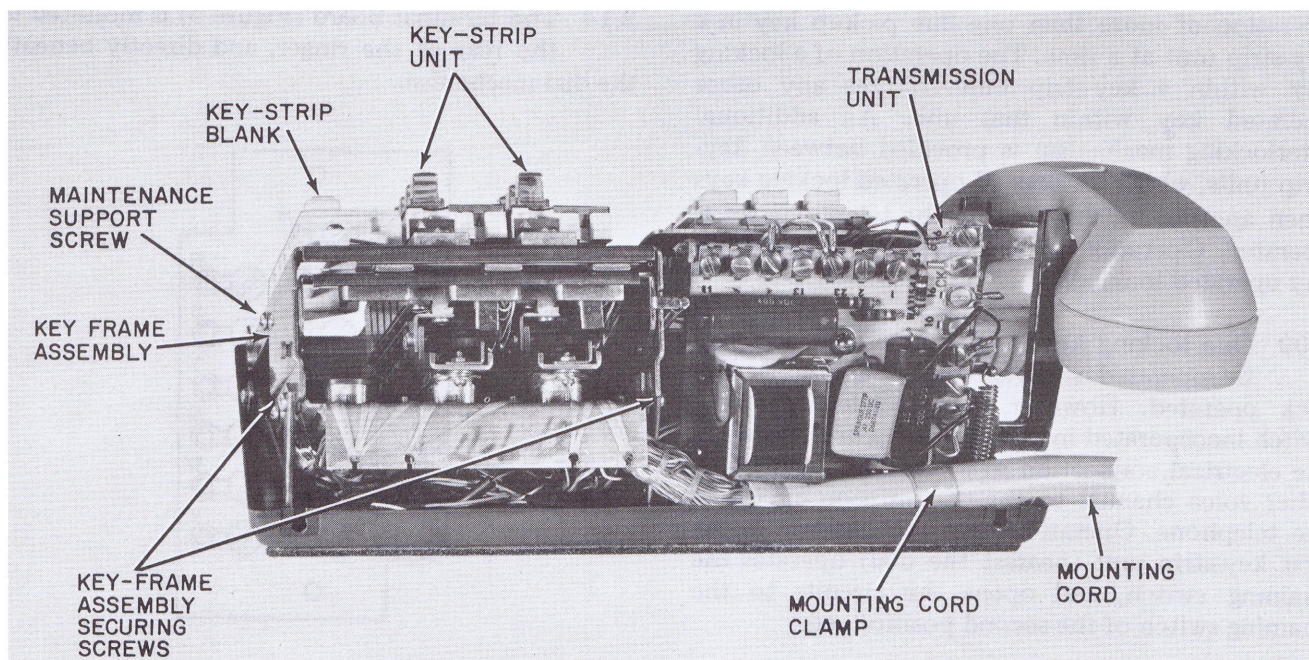

Figure 6. Type 860B Key Telephone Set Rear View with Housing Removed.
2.15 The transmission unit is of the printed wiring board type. It stands on edge at the rear of the terminal board. See Figure 6. The rotary dial version of the Type 860B Telephone Set uses a WA-1154-A transmission unit (430930). The Touch Calling version uses the WA-1155-A (430931) transmission unit.
2.16 The 8-foot mounting cord enters the telephone set at the left side near the rear of the set (Figure 6). It passes under the induction coil of the transmission unit. It is fastened to the telephone set base plate by a clamp near the point of entry into the set. The 120 conductors terminate on 50-terminal plugs of the same type used for connection to the key-strip units. One group of forty conductors terminates on each of three plugs, leaving ten empty terminals on each plug.